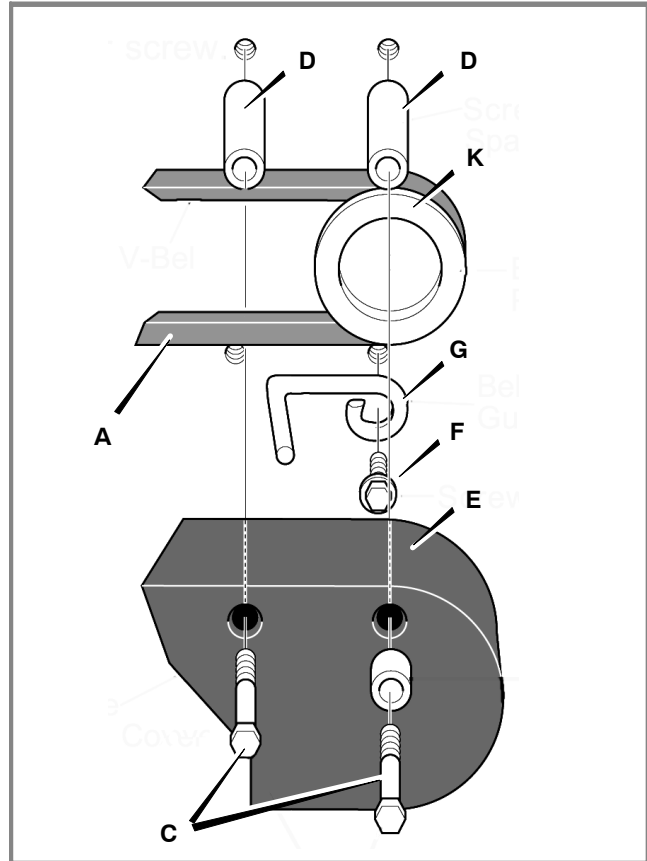
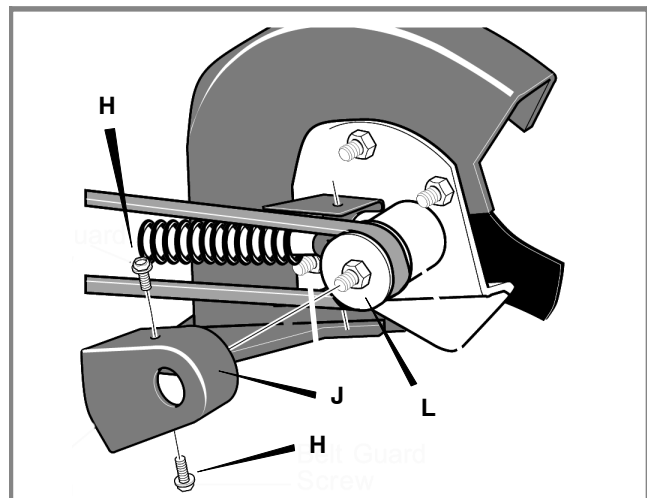

Figure 23: Belt Removal
Figure 24: Belt Guard
- 3 Remove the two screws (C) and spacers (D) from the top of the engine pulley cover (E). Remove the engine pulley cover (see Figure 23).
- 4 Loosen, do not remove, the screw (F) that holds the belt guide (G). Then, move the belt guide away from the belt.
- 5 Remove the two screws (H) from the belt guard (J) (see Figure 24).
- 6 Remove the old belt from the engine pulley (K) and from the quill assembly pulley (L). Replace with an original equipment belt.